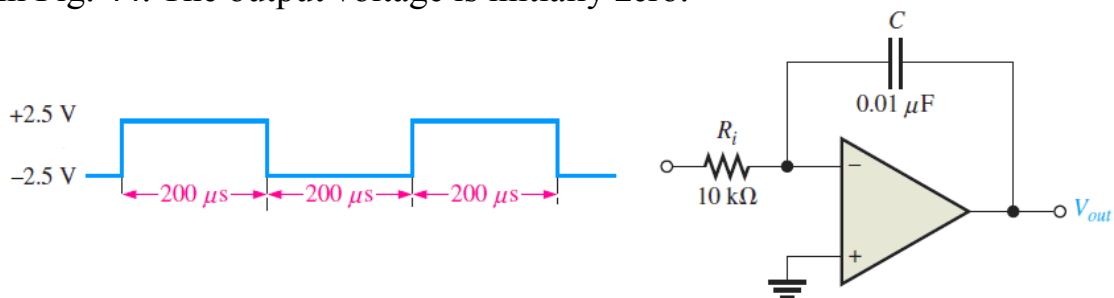

Fig. 44
**Example3:** Determine the output voltage response to the input square wave for the ideal integrator in Fig. 44. The output voltage is initially zero.